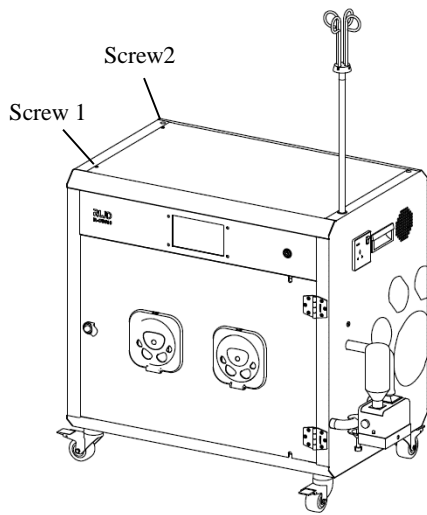
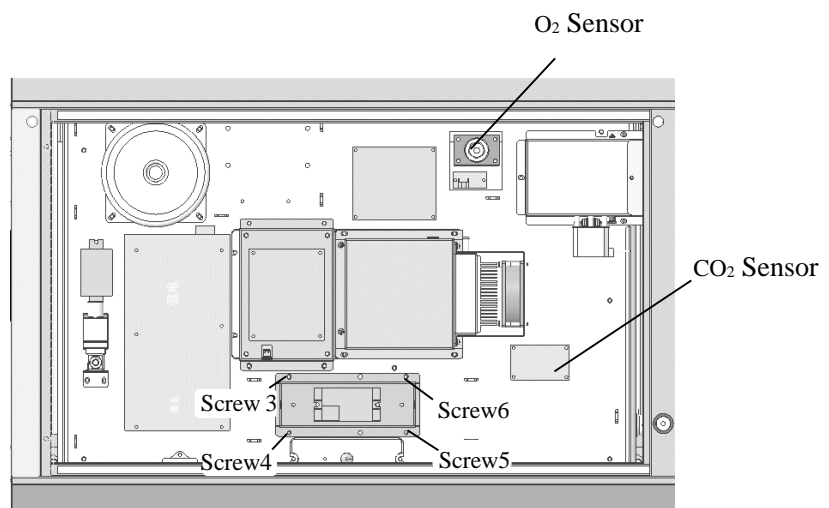

Figure 8-3
Figure 8-4
- 1) Shown as Figure 8-3 and Figure 8-4. Use a Phillips screwdriver to unscrew screws 1 and 2 in Figure 8-3 to open the top cover.
Replacement method: Firstly dismantle the cover plate according to the steps shown as Figure 8-3, remove the 4 screws in the installation position of CO2 sensor, loosen the sensor installation plate, unplug the old sensor and replace with a new one, as shown in Figure 8-5.
Replacement method: Firstly dismantle the cover plate according to the steps shown as Figure 8-3, remove the 4 screws in the installation position of O2 sensor, unplug the connection cable and replace with a new sensor, as shown in Figure 8-6.